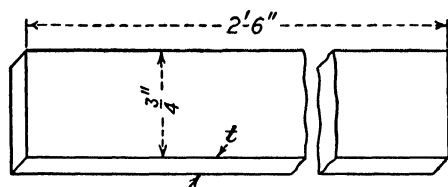

Fig. 222.
5. What should be the thickness of a $\frac{3}{4}$ -in. dural strip in order to hold 5,000 lb. in tension (see Fig. 222)?